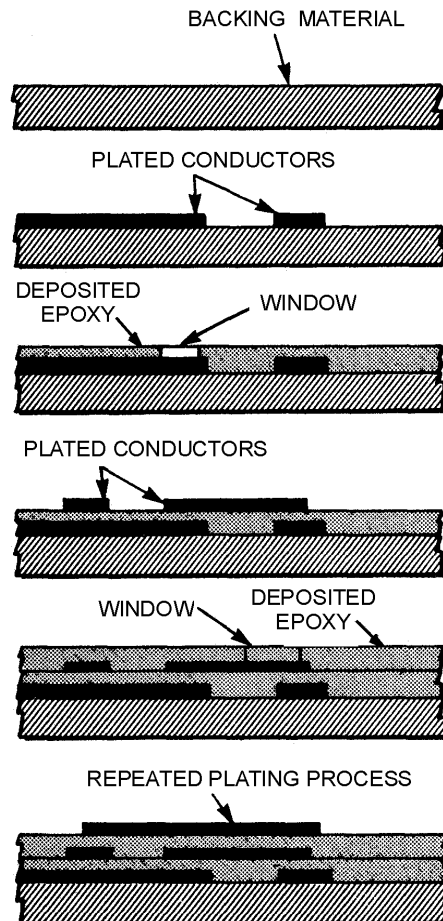

Figure 1-42.—Layer build-up technique.
**LAYER BUILD-UP METHOD.**—With the LAYER BUILD-UP method, conductors and insulation layers are alternately deposited on a backing material, as shown in figure 1-42. This method produces copper interconnections between layers and minimizes the thermal expansion effects of dissimilar materials. However, reworking the internal connections in built-up layers is usually difficult, if not impossible.